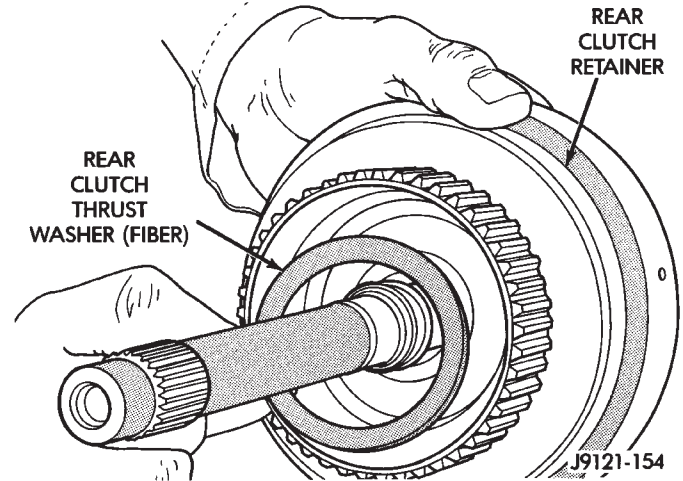

Fig. 74 Installing Rear Clutch Thrust Washer
(15) Coat rear clutch fiber thrust washer with petroleum jelly and install washer over input shaft and into clutch retainer (Fig. 74). Use enough petroleum jelly to hold washer in place.
(16) Set rear clutch aside for installation during final assembly.